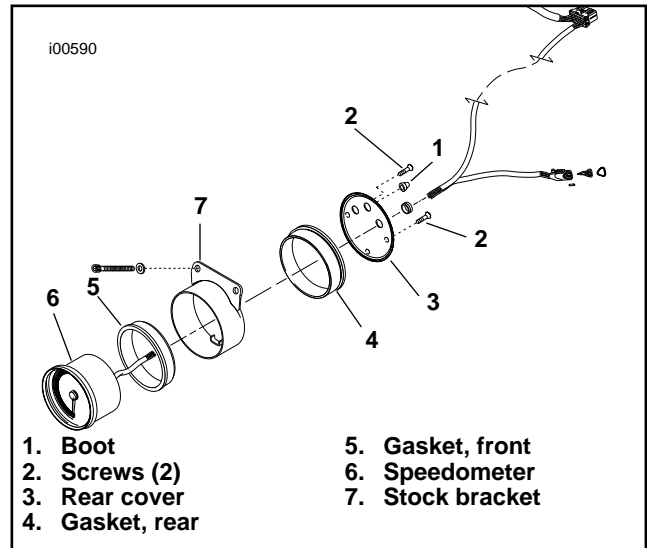

Figure 8. Removing Speedometer From Stock Bracket
1. See Figure 8. Unscrew boot (1), if necessary, from speedometer reset switch by turning it counterclockwise. Remove two cover screws (2) and the rear cover (3).